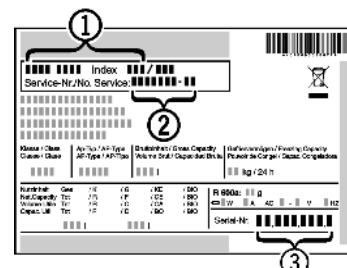

Fig. 41
- ▶ Read off the appliance name *Fig. 41 (1)*, service no. *Fig. 41 (2)* and serial no. *Fig. 41 (3)* from the model plate. The model plate can be found on the inside of the appliance on the left.